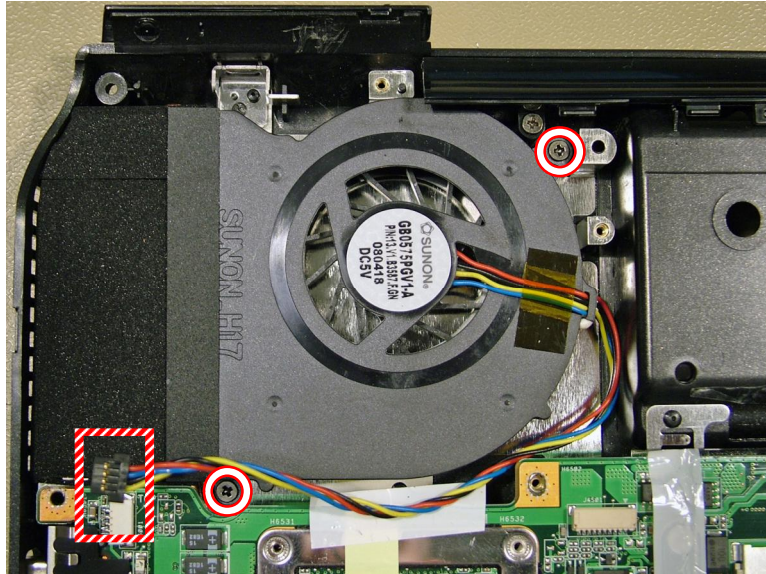

Fig. 26 Location of cooler cable and screws.
- Remove the two screws securing the cooler (see Fig. 26 on page 16).